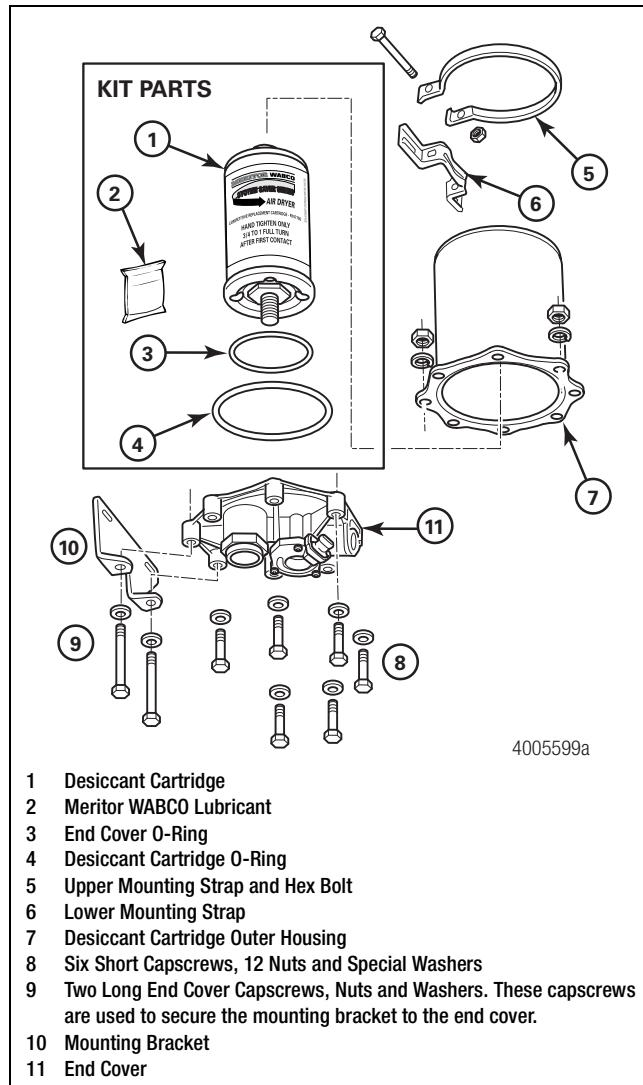

Figure 1
The replacement kit includes a desiccant cartridge, end cover O-ring, cartridge O-ring and Meritor WABCO lubricant. All other components shown must be carefully removed and retained for use in reassembly. Meritor WABCO does not provide these parts with the replacement kit. Figure 1.
- Tighten the upper mounting strap hex bolt and nut to 80-120 lb-in (9.0-13.6 N·m). Refer to Figure 1.